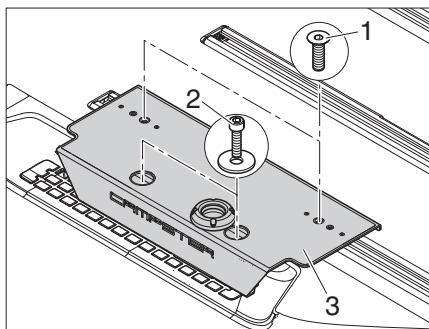

Fig. 58 Kitchen unit mount
- Screw out the two hexagon socket countersunk screws (Fig. 58,1).
- Screw out the two hexagon socket screws (Fig. 58,2) with washers.
- Remove the kitchen block mount (Fig. 58,3).